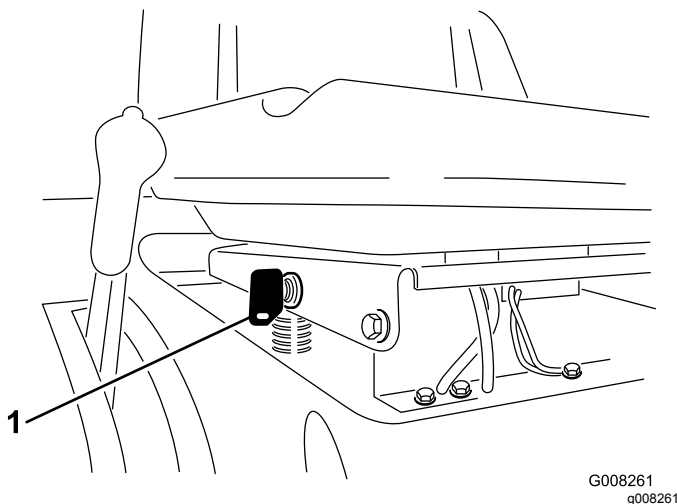

Figure 12
If you need to use the blades (PTO) while backing up, turn off the interlock feature using the KeyChoice switch located near the seat bracket (Figure 12).
2. Insert the KeyChoice key into the switch (Figure 12).